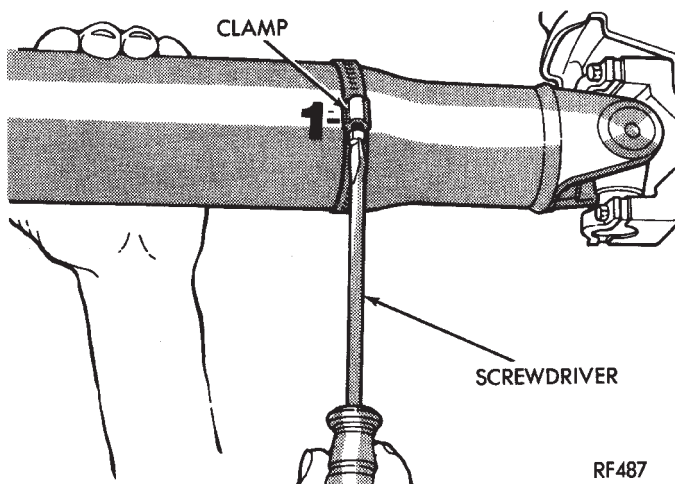
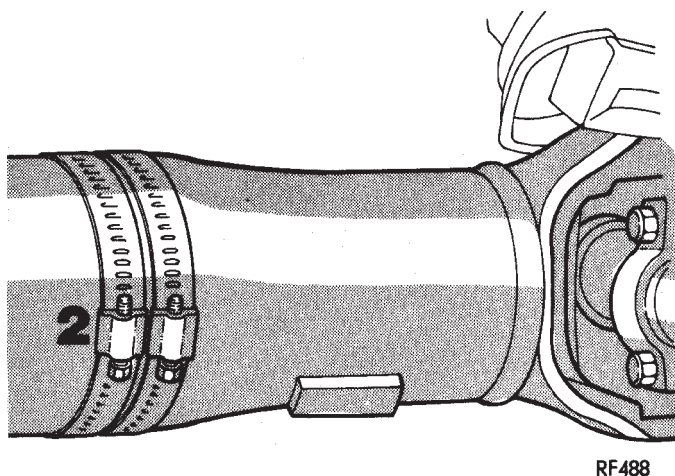

Fig. 6 Clamp Screw At Position 1
Fig. 7 Two Clamp Screws At The Same Position
- (1) Raise the vehicle.
- (2) Clean all the foreign material from the propeller shaft and the universal joints.
(3) Inspect the propeller shaft for missing balance weights, broken welds, and bent areas. **If the propeller shaft is bent, it must be replaced.**
(4) Inspect the universal joints to ensure that they are not worn, are properly installed, and are correctly aligned with the shaft.
(5) Check the universal joint clamp screws torque.
(6) Remove the wheels and tires. Install the wheel lug nuts to retain the brake drums or rotors.
(7) Mark and number the shaft six inches from the yoke end at four positions 90° apart.
(8) Run and accelerate the vehicle until vibration occurs. Note the intensity and speed the vibration occurred. Stop the engine.
(9) Install a screw clamp at position 1 (Fig. 6).
(10) Start the engine and re-check for vibration. If there is little or no change in vibration, move the clamp to one of the other three positions. Repeat the vibration test.
(11) If there is no difference in vibration at the other positions, the source of the vibration may not be propeller shaft.
(12) If the vibration decreased, install a second clamp (Fig. 7) and repeat the test.